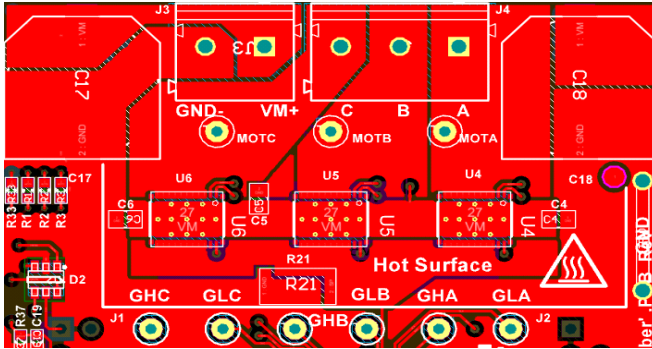

图 5-6. Top Layer
- Use the smallest drill size allowed by the design. The example in 图 5-6 uses vias with a 10-mil drill hole and a 16mil solder pad.